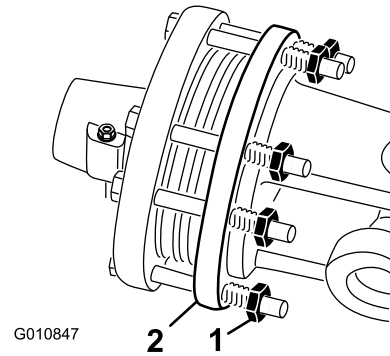

Figure 50
1. At the end of the season, back off each of the clutch nuts 2 turns (Figure 50).